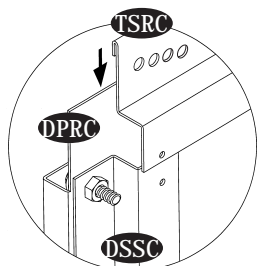

Fig.1
4. Assemble the door panel strip (TSRC) with door panel. Make sure the door panel top edge to be inserted into the (TSRC). See fig.1.